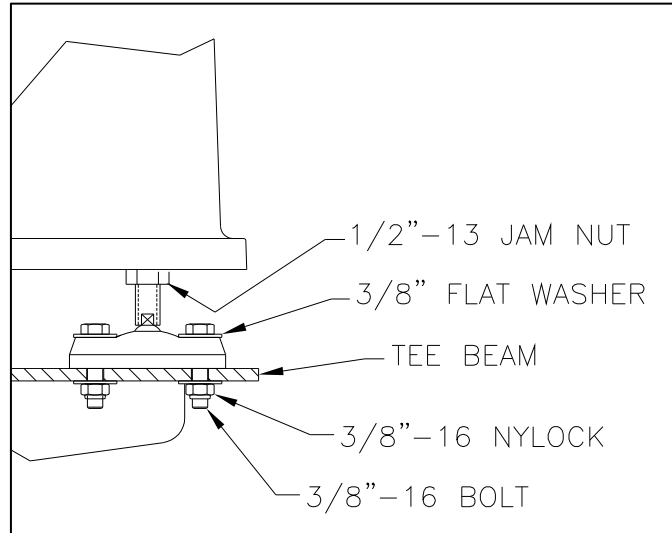

Figure 3-8 – Articulating Foot Hardware
- Use 3/8-inch hardware to bolt the articulating feet of the FastBack® Models 90E or 90E-G2 to the deck support structure. Figure 3-8 shows a typical T-pedestal installation.